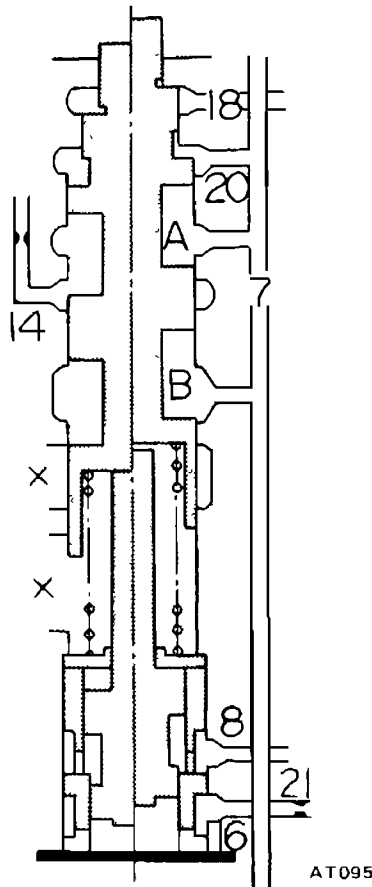

Fig AT 10 Pressure regulator valve
The oil from the oil pump is applied to the ring shaped area through orifice (20). As a result, the PRV is depressed downward, and moves from port (7) up to such extent that the space to the next drain port (marked with "X" in Figure AT-10) opens slightly. Thus, the line pressure (7) is balanced with the spring force, thereby balancing the PRV. In this operation, the space from port (7) to the subsequent converter oil pressure (14) circuit has also been opened. As a result, the converter is filled with pressurized oil in circuit (14), and this oil is further used for lubrication of the rear unit. Moreover, part of the oil is branched and used for lubrication of the front unit for the front and rear clutches.